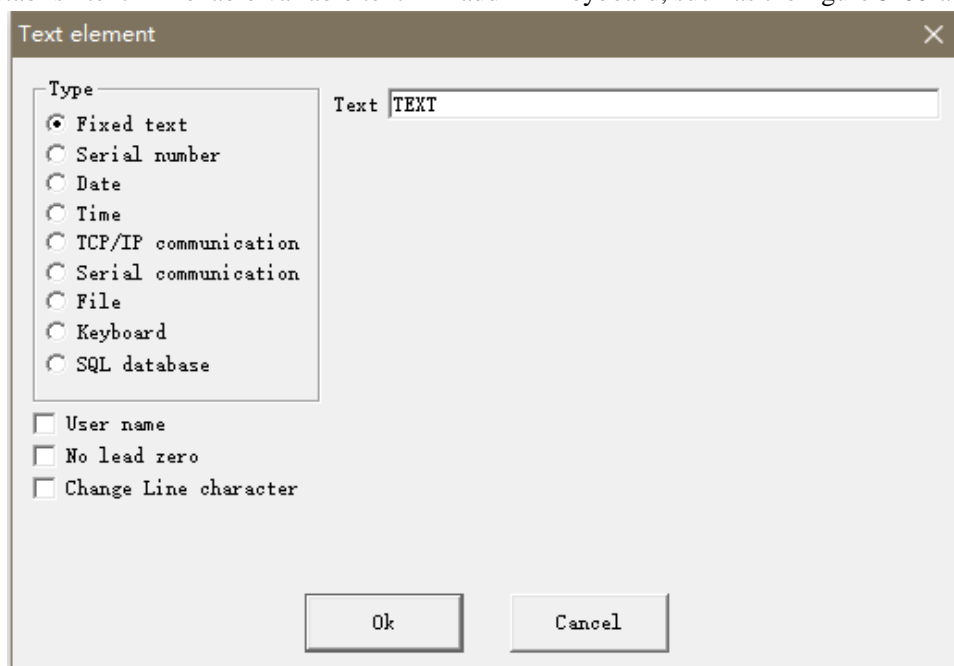

Figure 5-60-a Keyboard
establish text → enable variable text → add → keyboard, such as the figure 5-60-a:
2. Input prompting message, click “OK”, then we can obtain the figure 5-60-b.